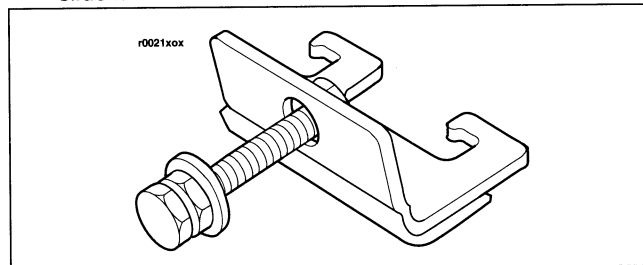

Figure 34. Retaining Clip
3. See Figure 34. Push in the battery retaining clip and slide it in the left direction to loosen.